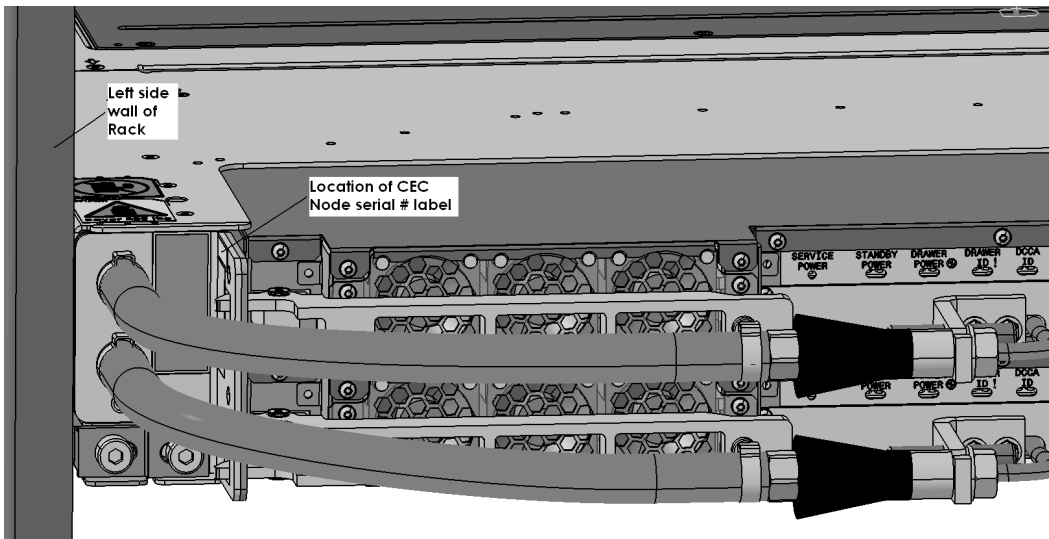

Figure 6 FRU Serial number location
STEP 9 Verify that the serial number on the CEC Enclosure VPD label (CEC Node serial # label) matches the location code of the D-Link Cable / D-Link Port requiring service (see Figure 6). This is the 7 digit serial number in the location code, show in bold below for example: